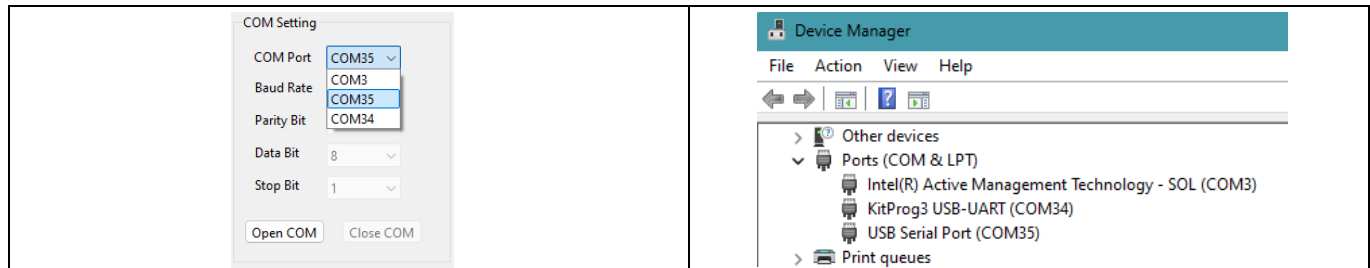

Figure 40 COM Port number selection
- In the COM port setting in the GUI, select the **COM Port** number for the control board. If unsure about the number, check in the PC's **Device Manager** (Figure 40). Then, click **Open COM**.